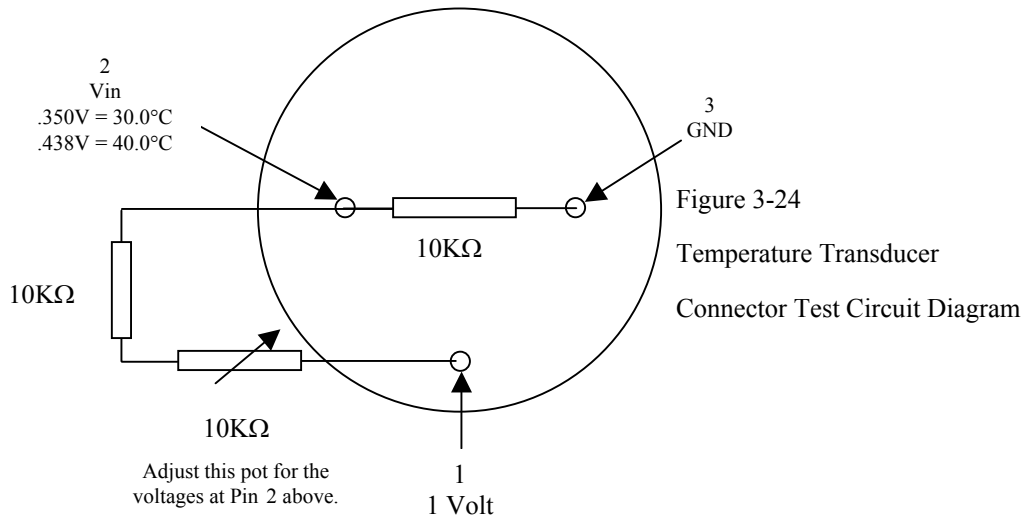

Figure 3-24
6. Connect two $10K\Omega$ resistors and a $10K\Omega$ potentiometer to the temperature transducer connector as shown in Figure 3-24. Connect the leads of the Digital Multimeter (DMM) to pins 2 (Vin) and 3 (GND).